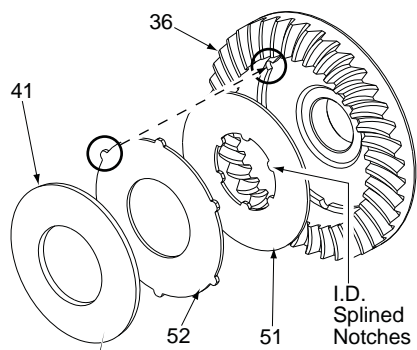

Figure 4
1. Place lubricated Gear Assembly (36, 41, 51 & 52) into Left Gearcase Assembly (29). See Figure 4 on page 3 for assembly instructions with correct Disc/Plate orientation).
2. Position assembled Spindle/Crank Assembly (17, 39, 8, 46, 53, 68, 37 & 69) into Left Gearcase. (Spindle components should be pre-lubricated with a light coating of grease prior to reassembly). *It is also beneficial to have the Barrel Cam (31) and Extension Spring (44) installed in Left Gearcase (29).* Once the Spindle/Crank Assembly is in the Left Gearcase, position/seat the Front Bushing Carrier (58) over Pivot Pin (6) that's pressed into Left Gearcase Assembly. Secure Orbit Slot (53) to the Left Gearcase Assembly using the three Screws (10) removed in disassembly.
3. Turn Crankshaft/Spindle Assembly by hand, applying a downward pressure until the splines located on the bottom of the Crank Assembly Drive Hub drop down and interlock with the splined notches in the I.D. of Metal Plate (51). Once the two pieces are interlocked together, hold the assembly down tight and turn Gearcase Assembly (29) over to enable the Right Handed Drive Bolt (5) and Spacer (47) to be slid through Ball Bearing (2). (Before installing Drive Hub Bolt (5) be sure to apply Blue Loctite® to bolt threads). Place the 3/16" x 1-1/2" long steel rod used in disassembly, back through the Counter Balance of Crankshaft Assembly (17) and slowly turn Right Handed Drive Bolt (5) in a clockwise direction until 3/16" long steel rod rests against Connecting Rod. Before tightening Drive Hub Bolt (5), make sure the raised notches located on the O.D. of Metal Plate (52) are engaged with corresponding recess in Spiral Bevel Gear (36), see Figure 4. Using an inch pound torque wrench and a 3/16" hex key, torque Drive Hub Bolt (5) to 210 in./lbs. or bolt can be tightened using a foot pound torque wrench to 17-18 ft./lbs.